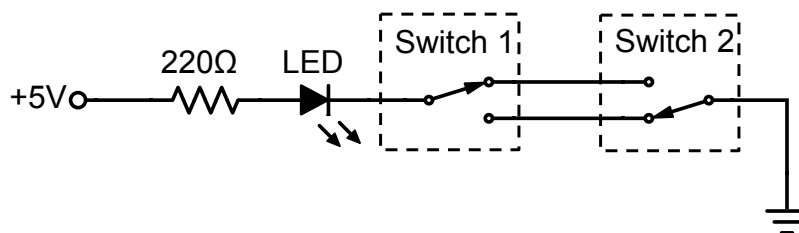

Figure 4 – A 3-way switch circuit allows the LED to be turned ON and OFF using either switch.
10. Sketch the circuit diagram shown in Figure 4 in your lab notebook.